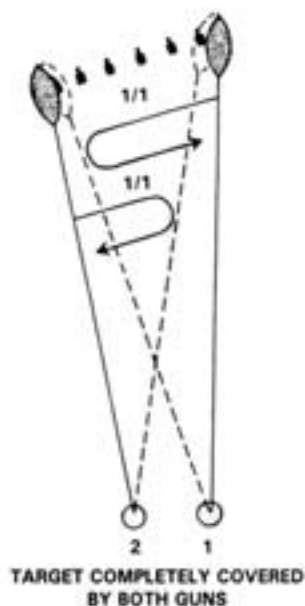

Figure 6-13. Traversing Method, Using a Squad of Guns, Both Flanks Visible to the Gunners.
a. Using a Squad of Guns. When a pair of guns engage frontal targets which are 100 mils or less in width for the heavy gun and 50 mils or less in width for the medium gun, and are also less than the length of the beaten zone in depth, the normal traversing method is used. Each gun delivers the initial burst of fire 2 mils outside its corresponding flank of the target; its fire is adjusted on that point, and it is traversed across the target to a point 2 mils outside the other flank. Each gun is traversed back and forth between these two points, covering the entire target until **CEASE FIRING** is given (see figure 6-13). The command for this type of fire is **TRAVERSE**. An example of a fire command used to engage the type target just described is as follows: